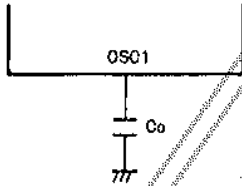

Fig. 2 1-Pin C Oscillation Circuit
| 1-Pin C Oscillation | I _{DDOP} (1) | Fig. 2 f _{OSC} =600kHz (TYP) | V _{DD} =4 to 6V, V _{DD} | | 1.5 | 5 | mA |
| 1-Pin C OSC Oscillation Frequency | f _{COSC} | Fig. 2, C _o =180pF±5% | V _{DD} =4 to 6V, OSC1 | 310 | 600 | 1141 | kHz |